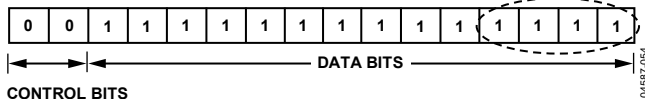
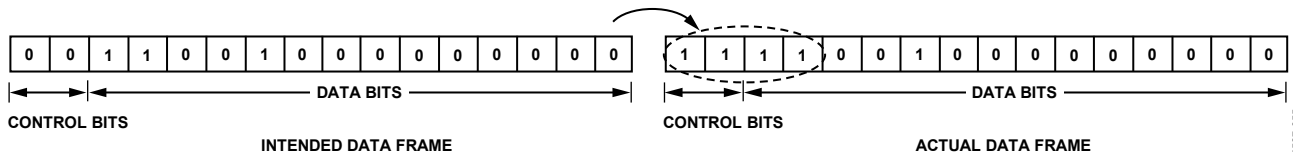

Figure 53. AD5453 First Write, Complete Data Sequence (0x3FFF)
Figure 54. AD5453 Second Write, Incomplete Data Sequence (0x3200) and Subsequent Additional Bits (0xF200)
- The user expects an output of 5.6 V. However, if $\overline{\text{SYNC}}$ goes high after 12 valid clock edges then an incomplete data sequence of 12 bits is loaded. To complete the shift register the 4 LSBs from the previous sequence are taken and used as the 4 MSBs missing. The addition of these 4 bits will put the device in rising edge mode and the output will show no change. Figure 53, Figure 54, and Table 11 show the data frames for this example.